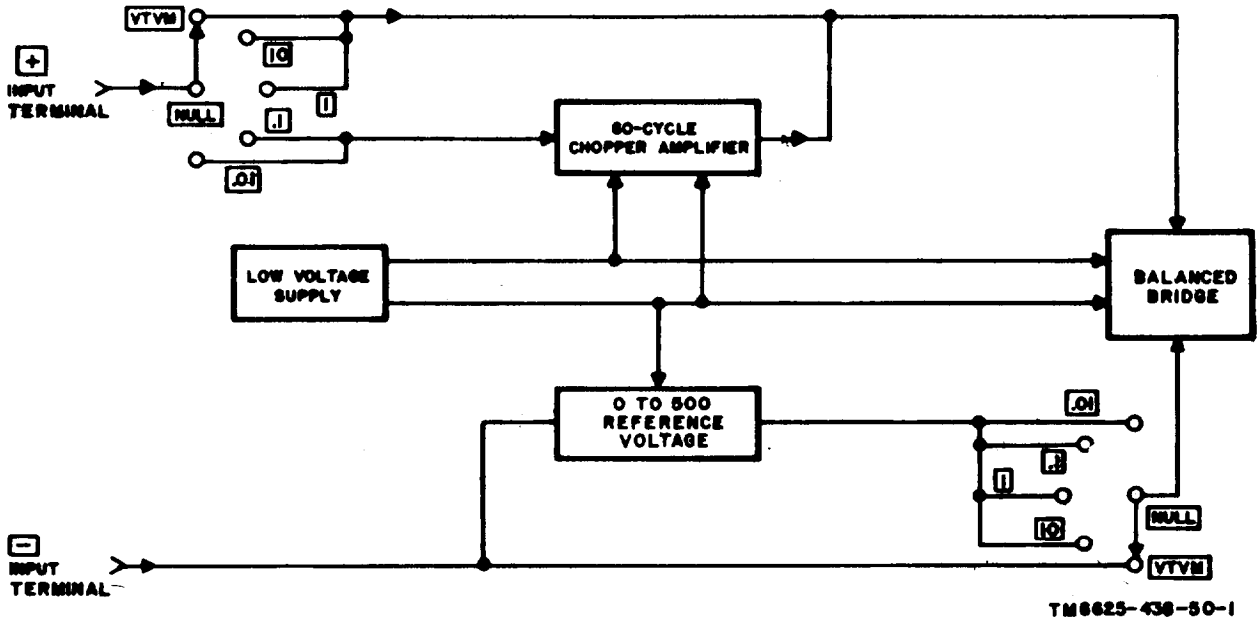

Figure 4-1. Voltmeter, Electronic AN/USM-98, block diagram.
(fig. 4-1)
a. Balanced Bridge (figs. 4-1 and 4-2).
- (2) When using the vtm to measure high resistance (from 1 to 500,000 megohms), the resistance being measured is connected to the input terminals of the vtm. The equipment is operated in the differential voltmeter mode (NULL switch set to 10 or 1) and voltage-divider switches A through E are adjusted to apply sufficient internal reference voltage across the unknown resistance to cause meter M1 to indicate off null. This off-null reading is noted and the resistance is computed in megohms.
b. 0- to 500-Volt Reference Power Supply (figs. 4-1 and 4-3). The 0- to 500-volt reference voltage is obtained from a +500-volt power supply and a voltage divider. A part of power transformer T1 and power rectifier tube V1 provide unregulated +900 volts. First series regulator tube V2, control amplifier tube V3, and voltage reference tube V5 provide regulated +625 volts. Second series regulator tube V4A, control amplifier tube V4B, differential amplifier tube V6, and voltage reference tubes V7 and V8 provide regulated +500 volts. The reference range voltage divider, VOLTS RANGE switch, and the five-decade attenuator provide the desired voltage (0 to 500 volts). This voltage is applied to the grid of V104B.
c. 60-Cycle Chopper Amplifier (figs. 4-1 and 4-4). The 60-cycle chopper amplifier is a stable, drift-free, dc amplifier with a gain of 50, and the 60-cycle chopper (CK1) is used to convert the input voltage to a square wave. The input voltage to the 60-cycle chopper amplifier is the difference between the 0- to 500-volt reference power supply output and the un-
d. Low-Voltage Power Supply (figs. 4-1 and 4-5). The low-voltage power supply consists